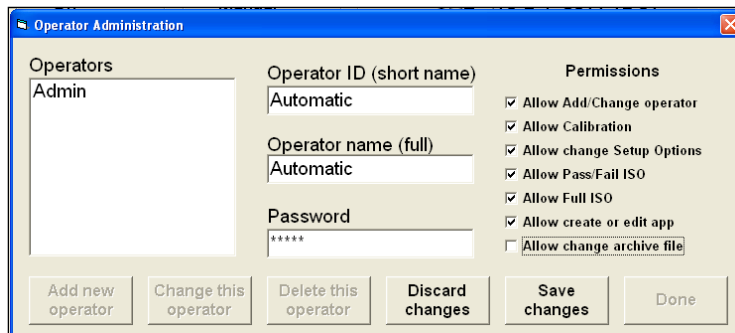

Figure 35: Operator Administration window
51. The Operator Administration window appears (Figure 35).